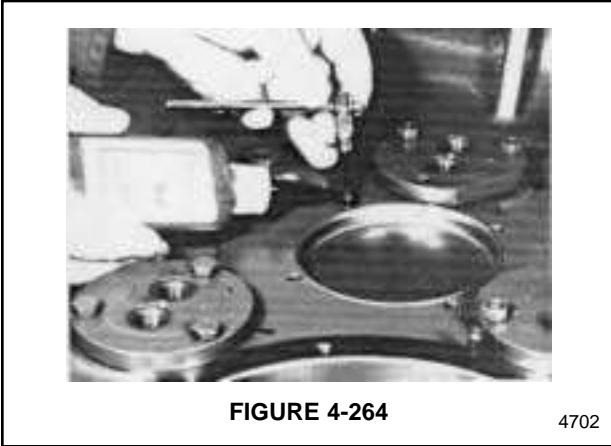

FIGURE 4-264
5. Coat set screws with Loctite and install them into the threaded holes around the bore plug. See Figure 4-264.